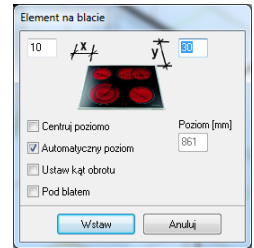

Fig. 249 – Element on a worktop window
- The **Element in the worktop** dialog is displayed (Fig. 249), in which insertion parameters for a model can be set, such as: